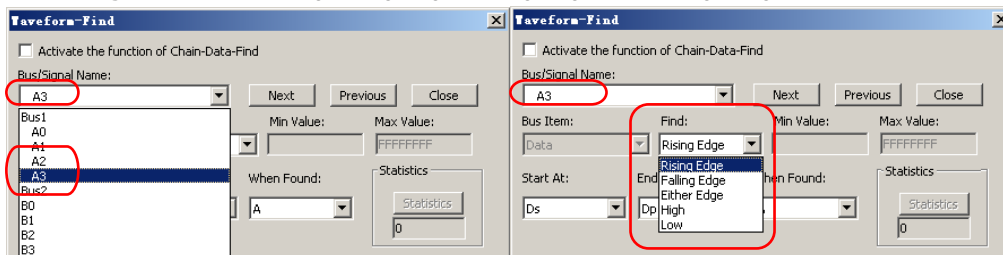

Fig 3-115: Waveform-Find Dialog Box of the Logic Signal
Step3. Choose the character for Find. The list of characters depends on whether it is a Bus, Signal, or the protocol analyzer such as I2C, UART, SPI, etc., which is being searched (See Figs 3-115, 3-116, 3-117, 3-118, 3-119, 3-120, 3-121, 3-122 and 3-123).